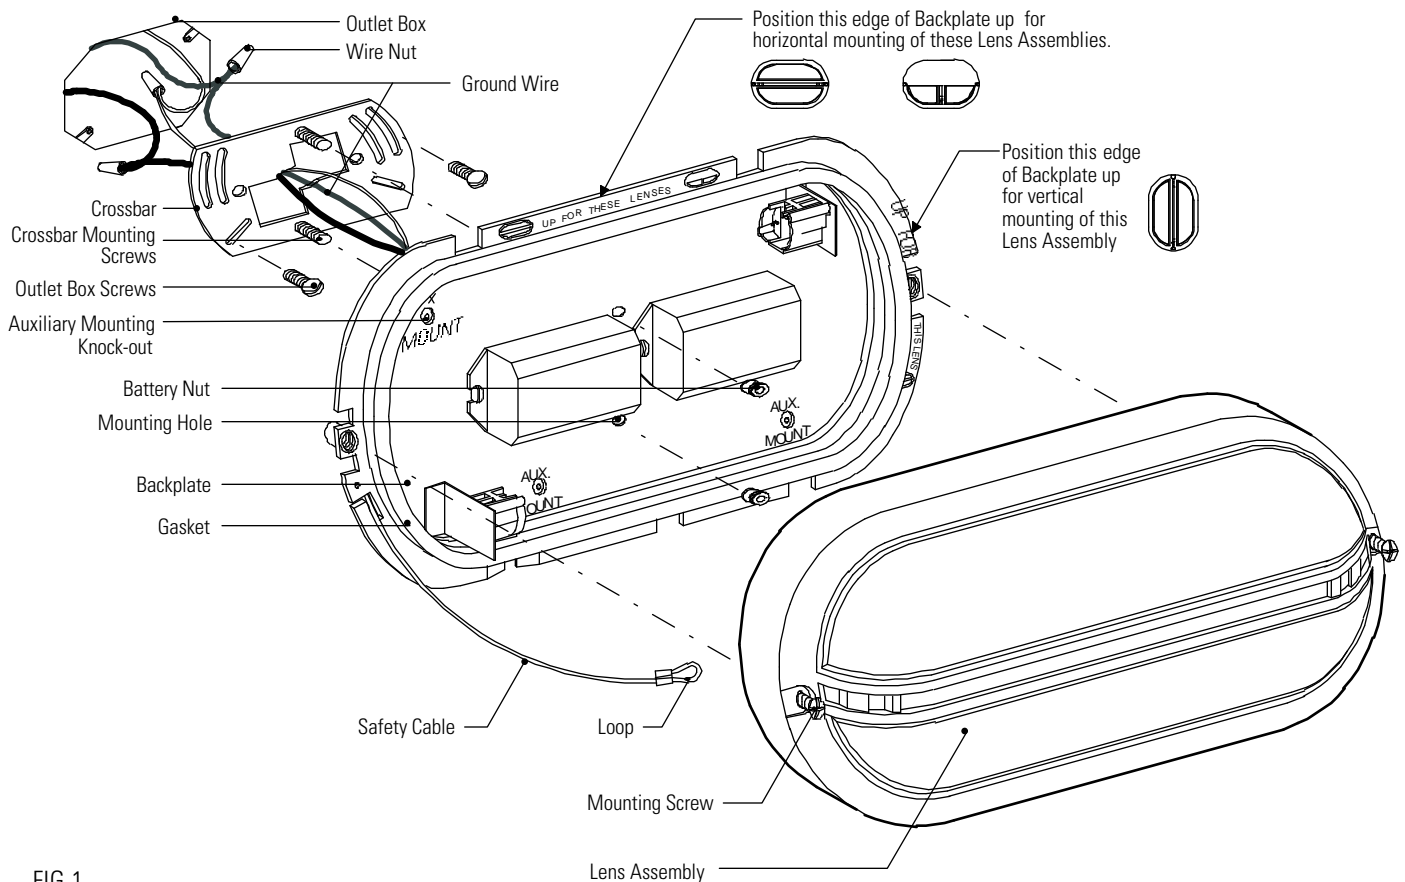

FIG.1
The **Backplate** is provided with (4) **Auxiliary Mounting Knockout** holes for direct mounting to wall surfaces. These can be used for added security or where direct **Outlet Box** mounting is not available. To remove plug in **Knockout** holes, follow steps 1 through 3 below. This **Backplate** can be mounted horizontally or vertically. See Fig 1 below for proper orientation for type of **Lens Assembly** and desired position.
1. Position blunt ended punch or awl in center of **Knockout** hole and firmly hit with hammer to punch plug through. Repeat for remaining **Knockouts** (Fig. 1).
2. Position **Backplate** in desired position over **Outlet Box** and mark location of (4) **Auxiliary Holes** on wall surface.
4. Thread **Crossbar Mounting Screws** into **Crossbar** as shown in Fig. 1.
11. Position **Lens Assembly** over **Backplate** making certain the **Safety Cable** does not interfere with the **Gasket** (fig. 1).
12. Secure **Lens Assembly** in place by tightening the (2) **Mounting Screws** on the face of **Lens Assembly**.